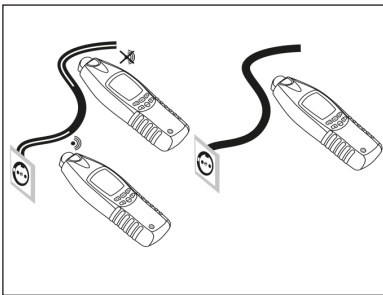

Figure 19:
- No transmitter is required for this application. (Figure 19)